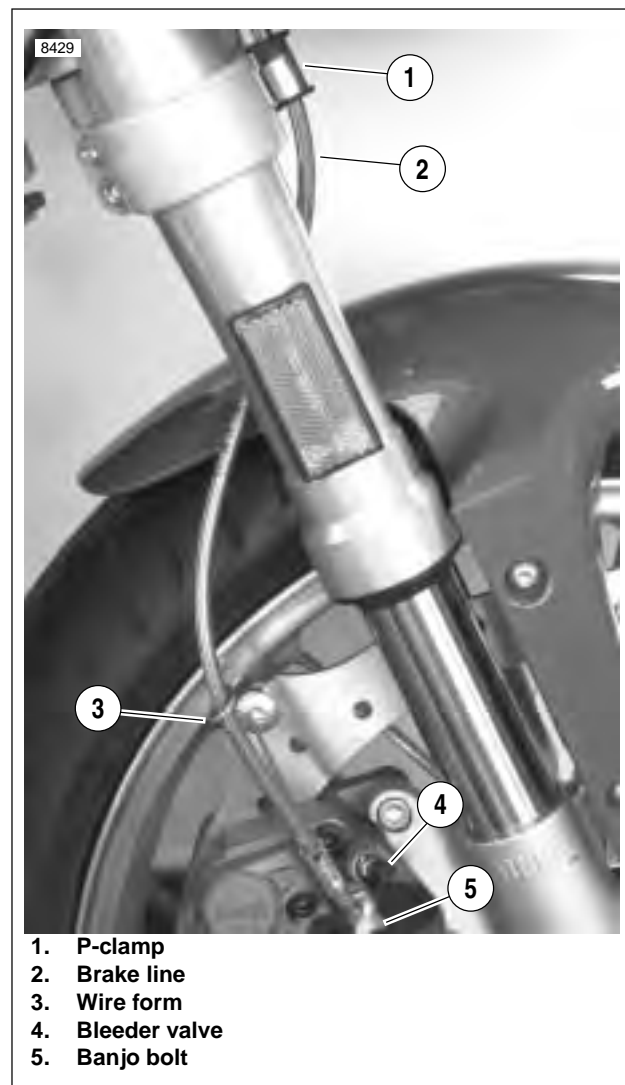

Figure 2-38. Front Brake Line
2. See Figure 2-38. Remove p-clamp (1) detaching brake line from right side of lower fork clamp.
4. See Figure 2-38. Remove caliper banjo bolt (5) (metric), two copper washers and wire form (3) to disconnect brake line (2) from caliper. Discard copper washers.
- a. See Figure 2-38. Install **new** copper washer, brake line (2), **new** copper washer and wire form (3) onto banjo bolt (5).
- b. Finger tighten banjo bolt (5) onto front caliper being careful not to pinch wire form (3) while tightening, wire form should rotate around banjo bolt freely.
- c. Twist brake line (2) into wire form (3) spiral and clock wire form against bleeder valve (4).
4. Tighten p-clamp with fastener (1) on lower triple clamp to 36-60 **in-lbs** (4-7 Nm).
6. See Figure 2-38. Tighten brake caliper banjo bolt (5) (metric) to 16-20 ft-lbs (22-27 Nm).